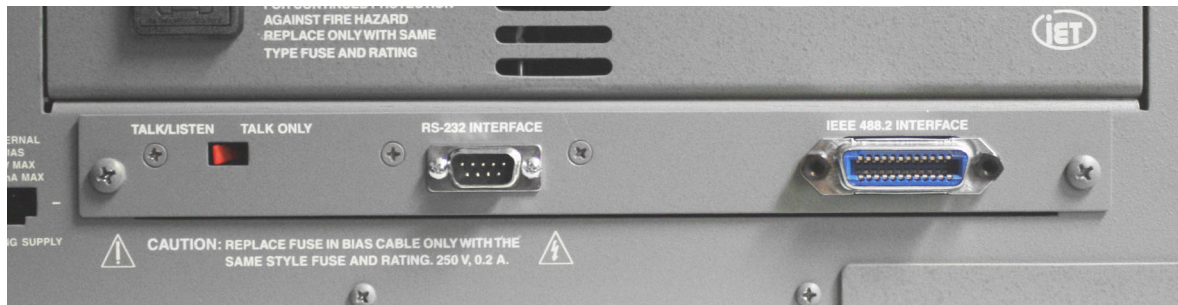

Figure 5-15: IEEE-488 interface on the rear panel
1. Remove the interface option , after removing the 2 large screws with resilient washers in the rear panel. See Figure 5-15